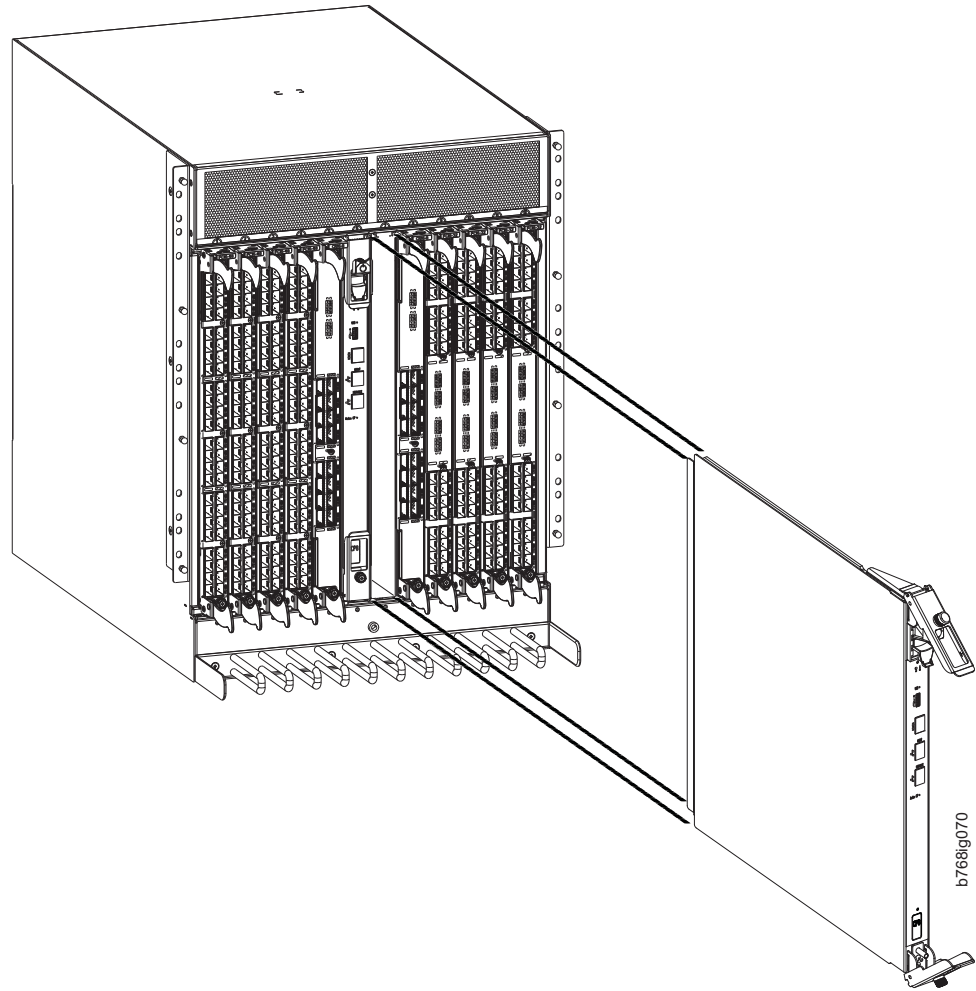

Figure 27. Removing the control processor (CP8) blade
8. Lever open both ejector handles simultaneously to approximately 45 degrees and pull the CP blade out of the chassis (see Figure 27 on page 77).